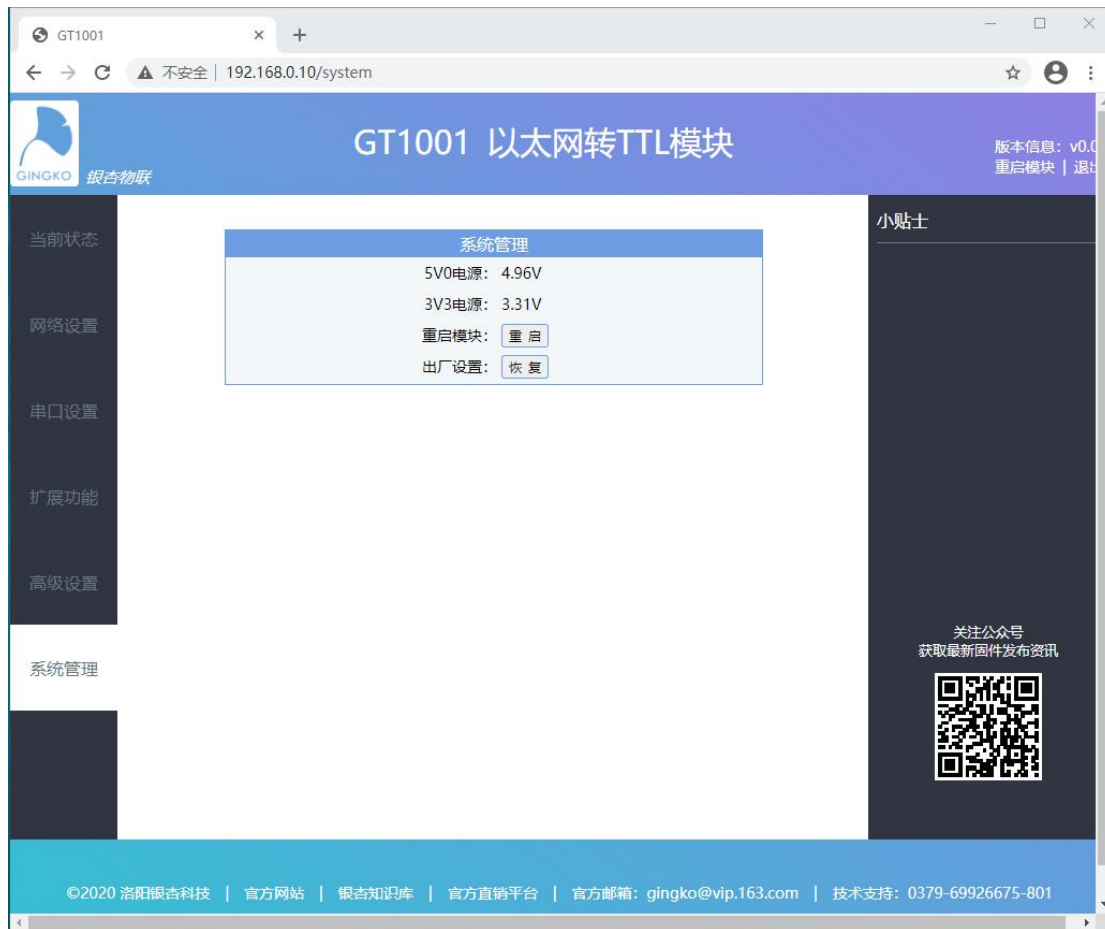

Figure 7-5 System parameter setting and query
(5) The voltage monitoring information can be queried in the "System Management" item, and the restart and factory settings can be restored, as shown in the figure. 7-5.